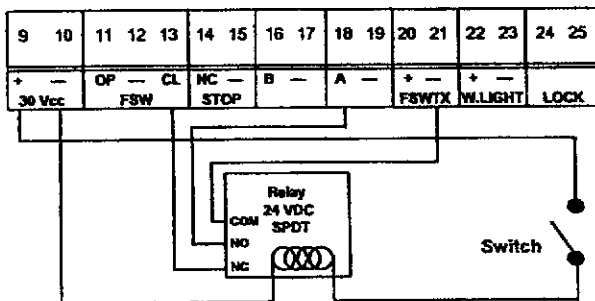

Figure 20. Connect an Open/Hold Open device with an external relay
**Open/Hold Open Device:** To open and hold open the gate, an Open/Hold Open device must make a set of contacts across terminals 18 and 19 (or 16 and 17) and must break a set of contacts between terminals 13 and 21 (see Figure 20).